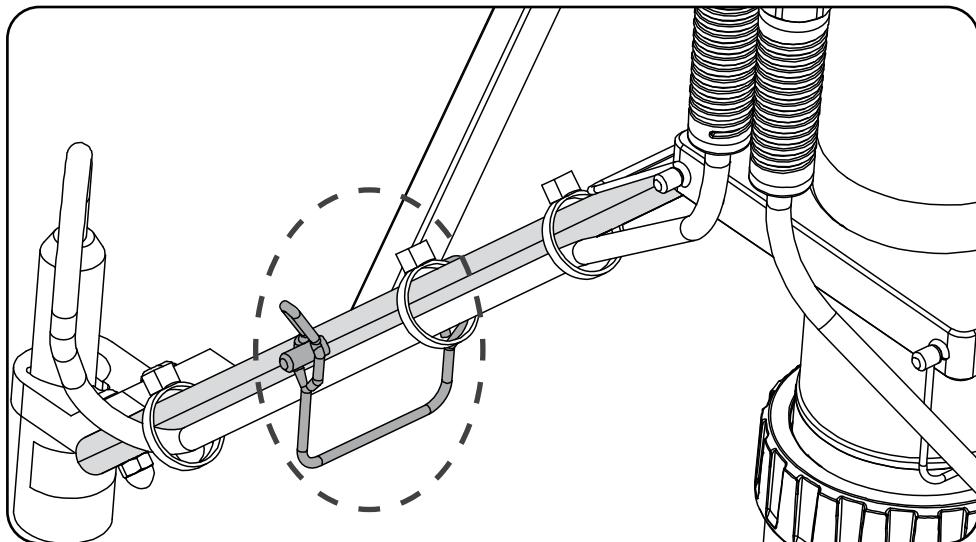

Figure 7 Lift the arms and install the pins where the two arms meet
- 3.** Once you have the EXO PAR system secured to the EXO2 sonde body it is time to deploy the sensor arms. To do so simply lift the arms and install the pins where the two arms meet, as shown (figure 7).